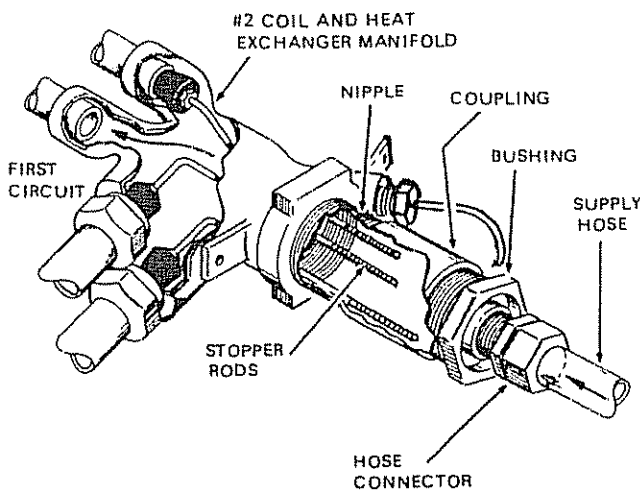

FIGURE 13
4. Remove plug from #2 coil and heat exchanger manifold and insert stoppers into three of the heat exchanger water passages, fig. 13.
5. Install a nipple, coupling, bushing and supply hose assembly to manifold, fig. 13.